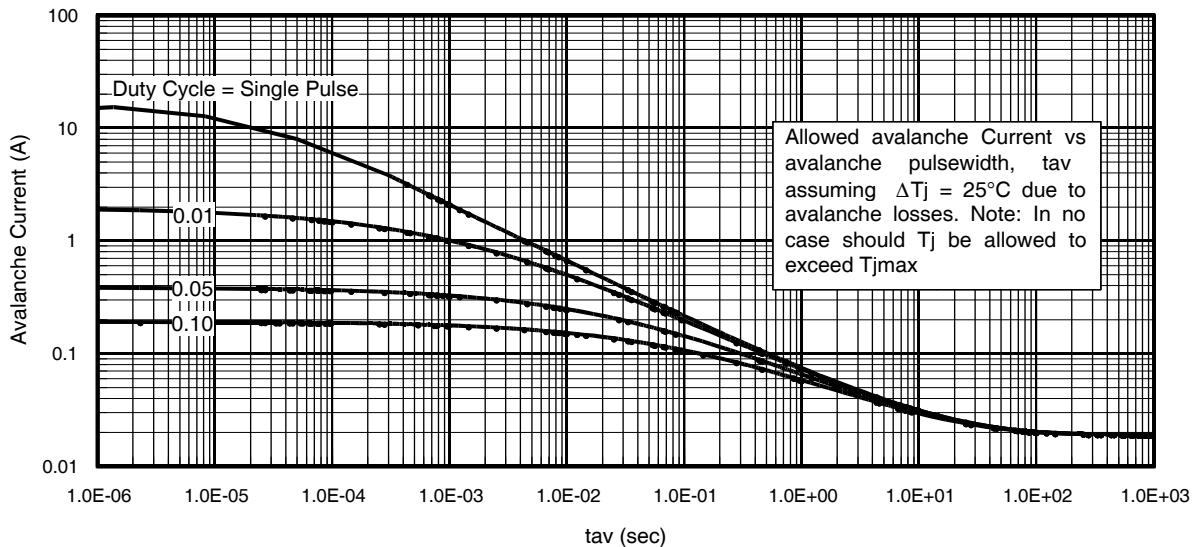

Fig 19. Typical Avalanche Current Vs.Pulsewidth
**Notes on Repetitive Avalanche Curves , Figures 19, 20:
7. ΔT = Allowable rise in junction temperature, not to exceed T_{jmax} (assumed as 25°C in Figure 19, 20).